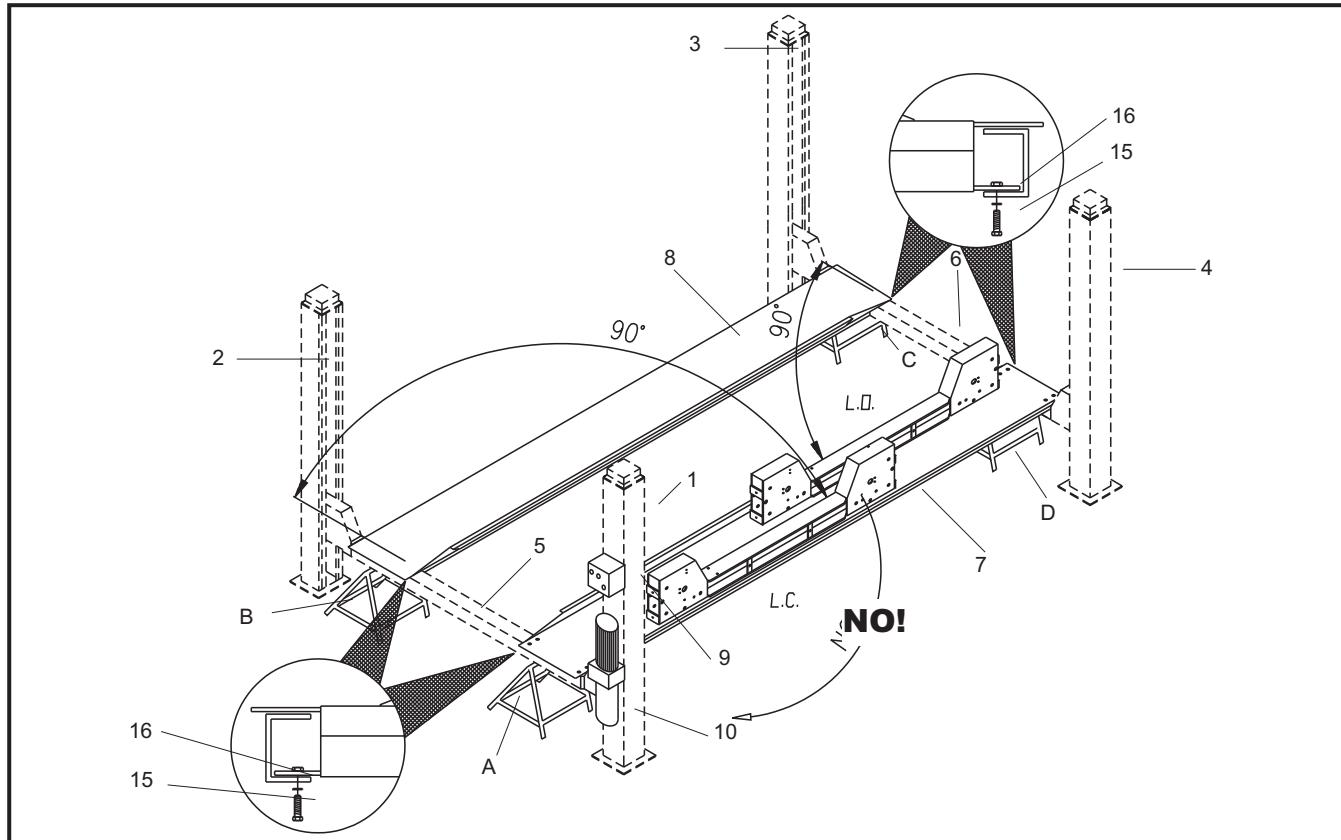

Fig.39
5 - Place the platform (8) on the cross-pieces (pos.5-6, fig.39).
Position the posts at the end of the cross-pieces (pos. 5-6, fig.39) observing the numbering and the lay-out shown in figure 39.